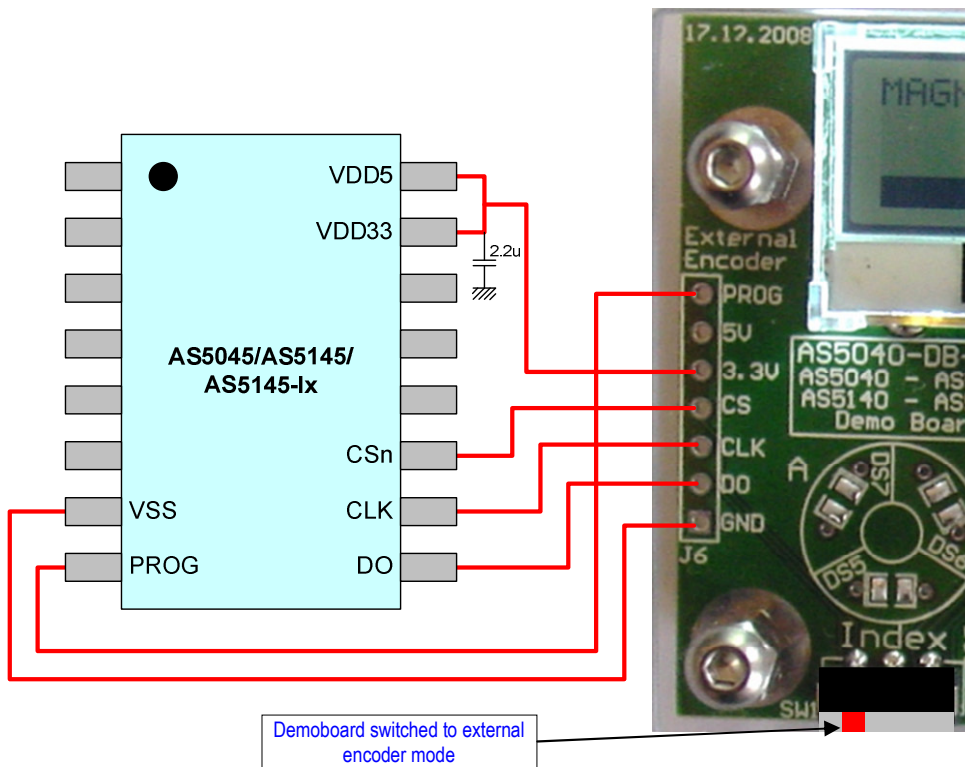

Figure 3: external AS5045/AS5145A/B connection to the demoboard
- In standalone mode, regardless to the demoboard type (AS5045, AS5145A/B), AS5045 and AS5145A/B can be attached to J6 and evaluated. See figure 3.
Figure 3 shows the main window of the GUI. On the top left corner, board information's as firmware (FW) version and demoboard name declaration can be found.